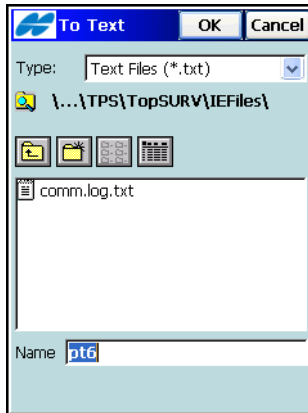

Figure 4-16. Select the File
- **Next** – opens the *To Text* screen (Figure 4-16).
On the **To Text** screen (Figure 4-16), select a destination directory and the name of the created file.